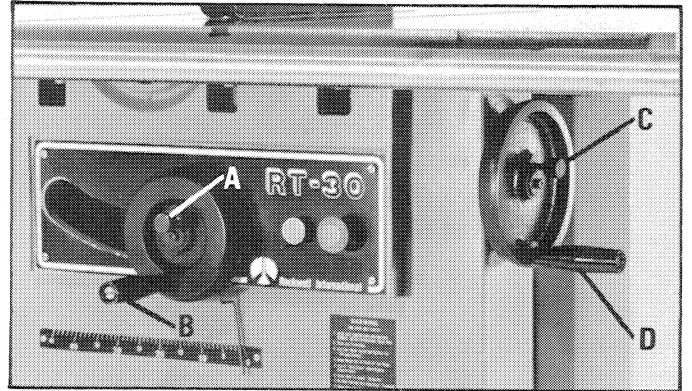

Fig. 32
To raise or lower the saw blade, loosen lock knob (A) Fig. 32, and turn handwheel (B). After the saw blade is at the desired height, tighten lock knob (A).
To tilt the saw blade, loosen lock knob (C) Fig. 32, and turn handwheel (D). The saw blade can be tilted 45 degrees to the right. When the saw blade is at the desired angle, tighten lock knob (C).